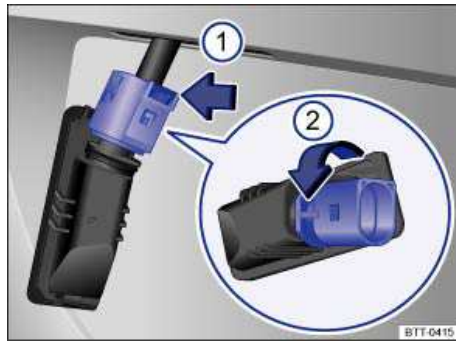

Fig. 204 License plate light: Removing the bulb holder.
4.	Press the lock on the connector plug in the direction of the arrow ⇒ fig. 204 (1) and pull the connector plug off.
5.	Turn the bulb holder in the direction of the arrow (2) and remove it with the bulb.
7.	Insert the bulb holder in the license plate light assembly and turn it counterclockwise in the direction of the arrow (2) until it stops.